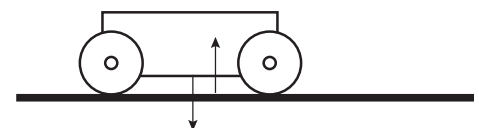

Figure 2
7. Is the car moving up or down? Left or right? Why or why not? What does that tell us about the forces present within the system (Newton's first law, balanced forces — the sum of the forces within the system is zero)? Discuss with the group to come to a consensus about the forces present within the system when the car is not moving (balanced, equal and opposite (Newton's third law\*) — the downward force of gravity on the car and the upward force of the table on the car). Students should use different arrows and the model car and table to show how they think the forces should be represented (you may want to use small pieces of tape to hold the arrows in place). Explain that the different length of the arrows represent the magnitude or how large the force is (small arrows = small force, medium arrows = medium force, large arrows = large force). To show equal and opposite force use the same size arrows pointing in opposite directions. One arrow should originate on the table — it is acting upon the car. The other should originate on the car — it is acting upon the table. Show students how to draw these force vectors (magnitude and direction) on the drawing of the car on the board (figure 2).